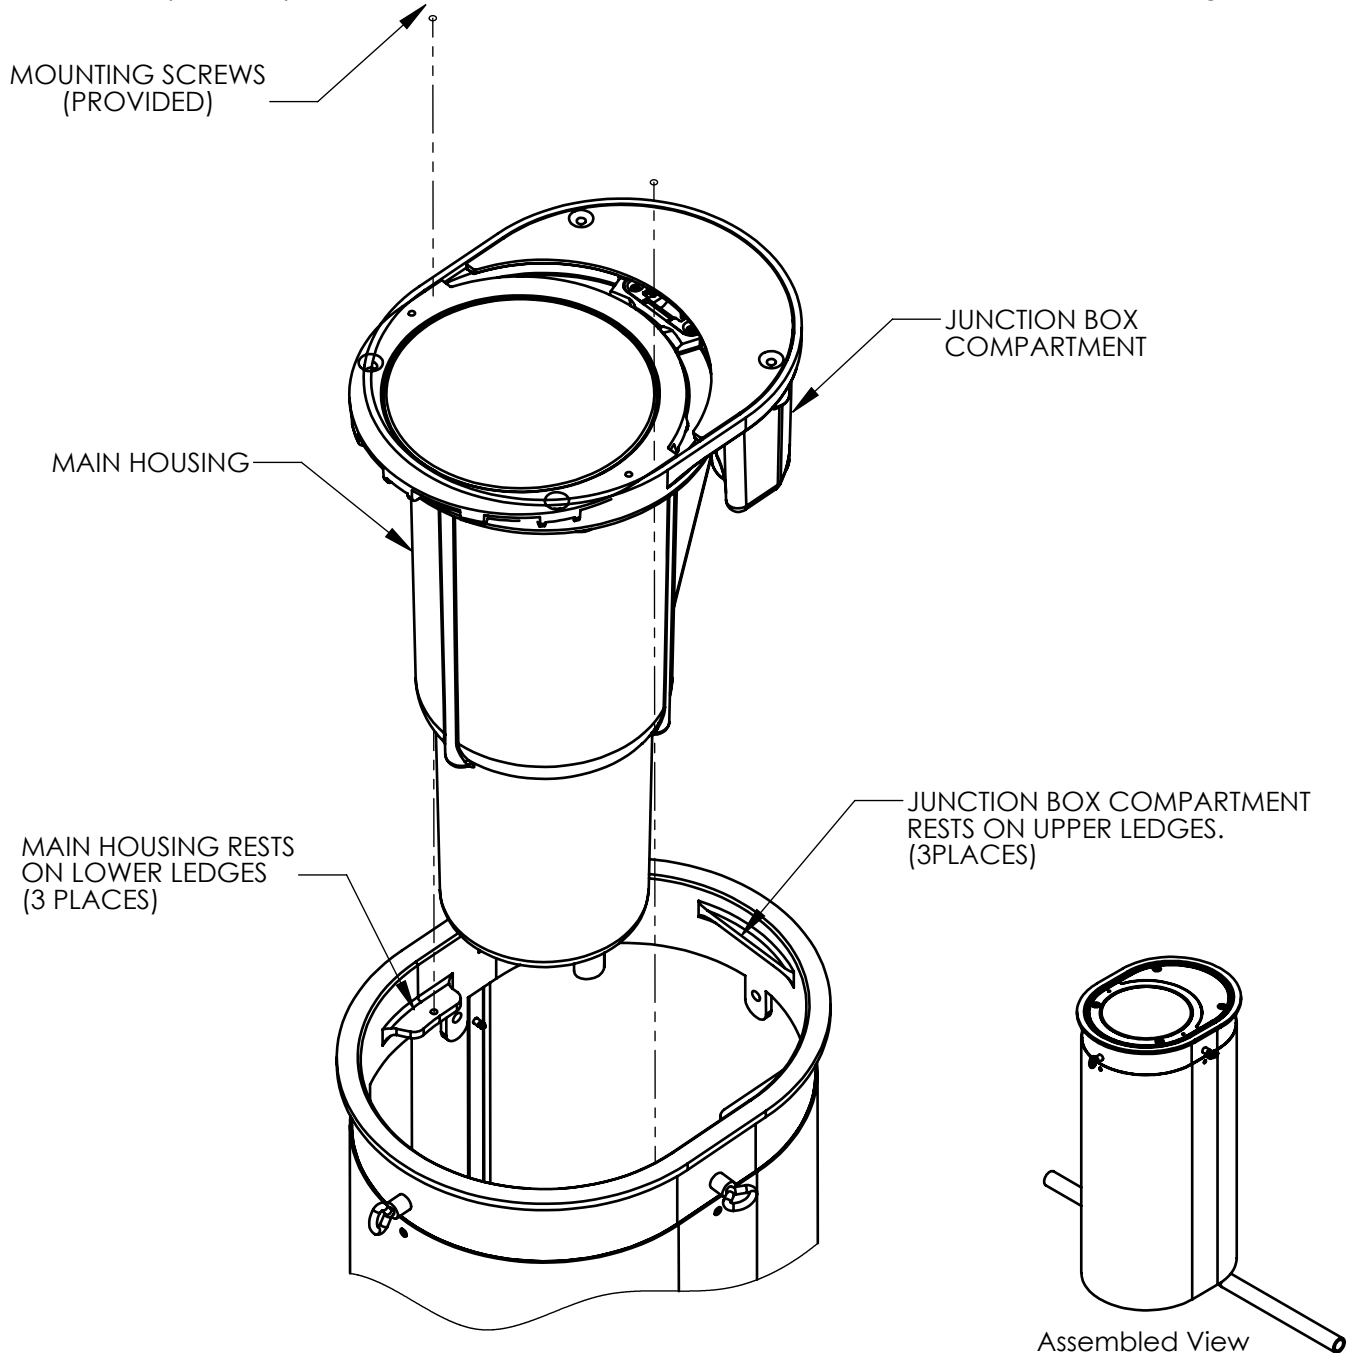

Figure 2: FIXTURE POSITION WITHIN CONCRETE POUR KIT.
- STEP 3: Secure Concrete Pour Kit in final position with re-bar and other anchoring devices (not provided) via the eyebolts (supplied). **Note:** The fixture only sits one way inside the Concrete Pour Kit, see Figure 2.